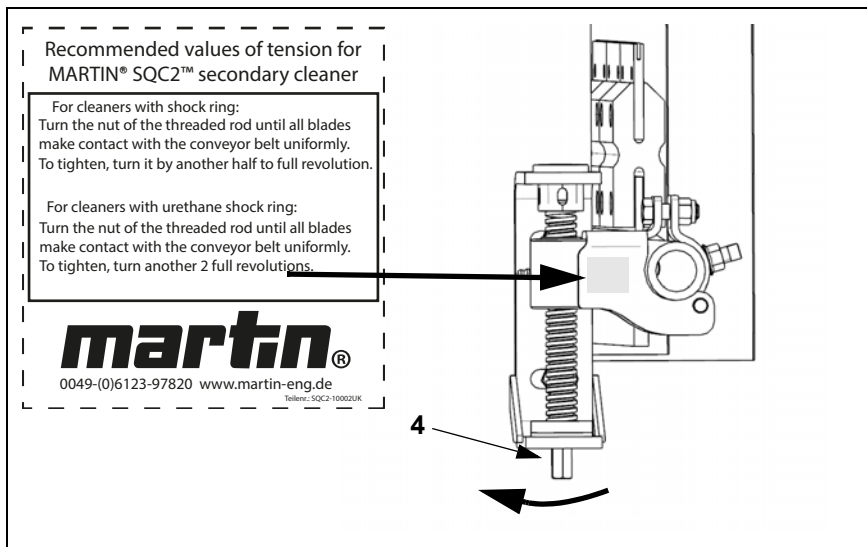

Fig. 24:
1. Before tightening, turn the lower hexagon of the threaded rod (4, Fig.24) of the tensioner so far anticlockwise that the blades touch both sides of the conveyor belt.